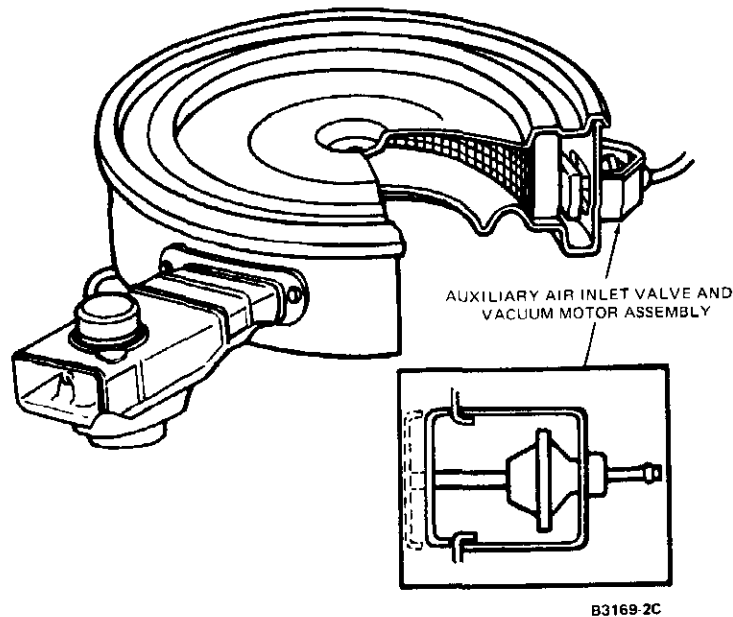

FIG. 3 Air Cleaner With Auxiliary Air Inlet Valve and Vacuum Motor
1. Start the engine, observe the vacuum motor plate. It should be fully closed (Fig. 3).